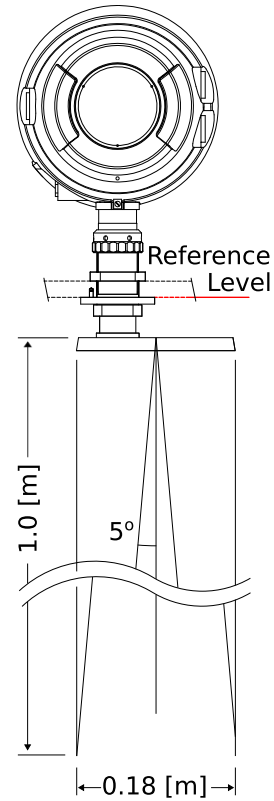

Figure 1.1: The  $5^\circ$  [deg] half top angle of the F08 antenna beam and the reference level for mounting height measurement.
- It is advised to choose a mounting position such that the WaveGuide radar beam is free of large reflecting obstacles (the beam of the F08 antenna has a  $5^\circ$  [deg] half top angle as shown in Fig. 1.1). The minimum horizontal distance between the radar and any obstacle in the beam's path should be at least 10% of the vertical distance between the radar and the obstacle. This does not only include horizontal objects in the beam's path but also vertical structures.
- The reference level for the mounting height of the radar is shown in Fig. 1.1.